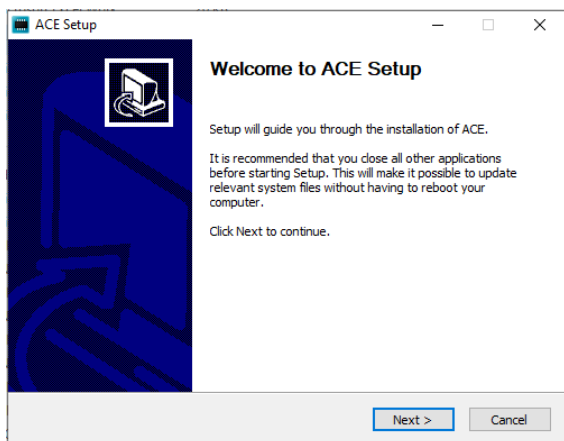

Figure 9. Evaluation Software Install Confirmation
4. Click **Next >** to continue the installation, as shown in Figure 9.